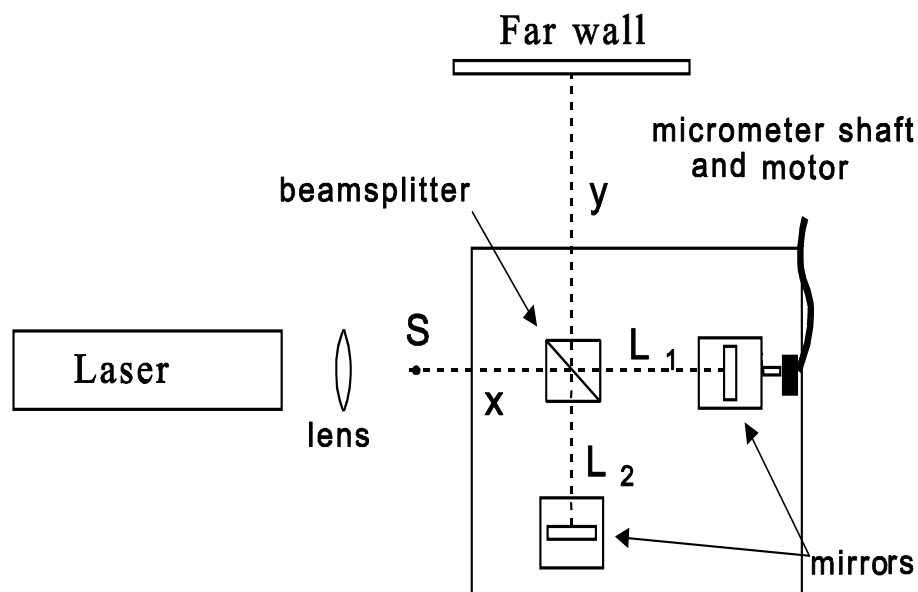
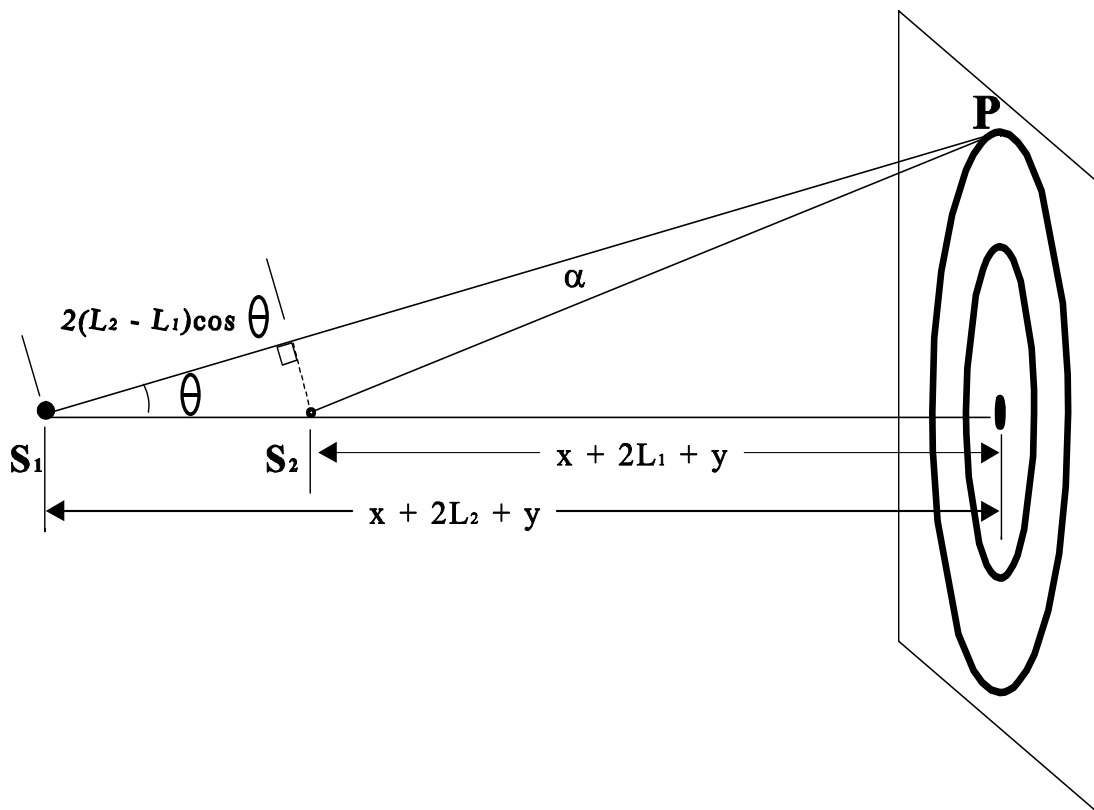

Figure 1: Michelson Interferometer
Figure 2: Two Source Representation
Please do this section before coming to lab. Look at the Michelson interferometer diagram in one of the references, and compare to Figure 1 below. In texts, it is usually assumed that an observer looks into the interferometer, so that the eye receives light that originated at a relatively weak source. In this experiment a laser is used as the source, so the light leaving the interferometer is bright enough to be projected on a screen.
Suppose that in Figure 1, the lens between the laser and the interferometer is removed. The laser beam then follows the dotted path (length x) into the interferometer. When it hits the beamsplitter, half the light is reflected along path L_2 to a fixed mirror and the other half continues straight ahead, along path L_1 , to a movable mirror. The mirrors reflect the light back to the beamsplitter, where each returning ray is split again. Half of the light returning from each mirror leaves the interferometer along the dotted path (length y) and travels to a screen mounted on the far wall. Since there are two light beams arriving at this point on the screen, the spot is bright or dark depending on whether they are in or out of phase. One beam travels a distance $x + 2L_1 + y$ from point S to the wall, while the second travels $x + 2L_2 + y$. The difference in these path lengths is therefore $2(L_2 - L_1)$, and the spot on the screen is bright only when this is an integer times the laser wavelength, i.e. when $(L_2 - L_1) = n(\lambda/2)$.
When the lens is in front of the laser, as shown in Figure 1, it focuses the laser beam to point S , which acts as a point source sending light into the interferometer. Light waves emerging from a point source are spherical, i.e. the light rays coming out of S diverge from one another. This means that the light passing through the interferometer illuminates the entire screen, not just the "central" point where dotted path y hits. To find out if a particular point P on the screen is bright or dark, we need to consider the difference in path lengths from S to P for light traveling along the two arms of the interferometer. The resulting pattern on the screen turns out to be a series of concentric circular bright and dark bands called "fringes", as illustrated in Figure 2 below.
pattern, the lengths of these routes are $x + 2L_1 + y$ and $x + 2L_2 + y$, respectively. Therefore, what happens on the screen is the same as what *would* happen if there were *two* point sources located at these distances in front of the screen on a common axis, as shown in Figure 2, provided that wave crests leave each of the sources simultaneously. (Notice that if you "unfold" the paths in Figure 1 you get Figure 2.) Since $L_1 \gg (L_2 - L_1)$, the rays from S_1 and S_2 to P are nearly parallel. For a particular angle θ , the light from S_2 travels a distance α while the light from S_1 travels $\alpha + 2(L_2 - L_1)\cos\theta$. If the difference between these two path lengths is an integral number of wavelengths, constructive interference occurs and you have brightness at P . Since the
Place the steel slab on top of the inner tube and, with the levers on the magnetic bases in their "off" positions, arrange the optical components on the slab as shown in Figure 1. Place the laser opposite the movable mirror and adjust the components until the axes of the laser and mirrors are perpendicular to the beamsplitter faces. Lock the magnetic bases to the steel slab. (*Hint: It helps if L_1 and L_2 are nearly, but not quite, identical. Also, you may want to position the mirror with the motor in a location where you may read the micrometer scale easily.*) With the laser on, you should see a pattern of bright dots on the wall opposite the bench. Observe the behavior of these dots when the mirror tilt adjustments are varied, returning the screws to the middle of their travel range. **QUESTION 1:** *Why are there more than two dots? To determine why, observe what happens when an index card or piece of paper is inserted between the beamsplitter and either of the mirrors. Next, try blocking both mirrors.*
- Suppose that in Figures 1 and 2, $x = y = L_1 = 5.00$ cm and $L_2 = 5.15$ cm. What will be the diameter of the smallest dark ring on the screen, if the center of the pattern is a intensity maximum, and if the wavelength of the light is 600 nm?